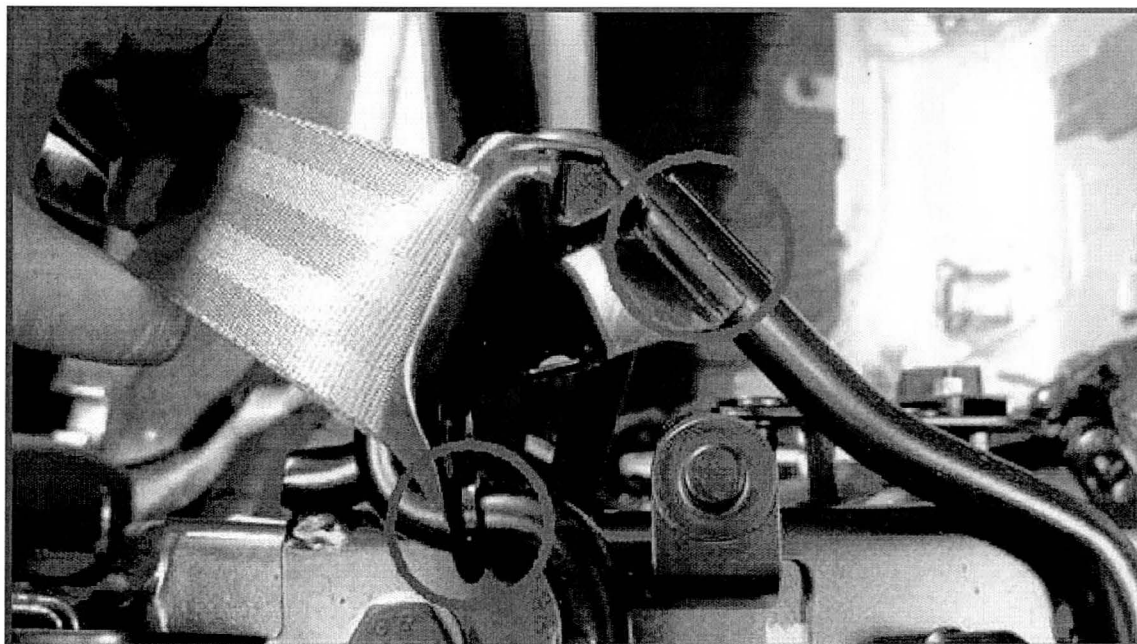

Figure 6
5. Refit the modified left hand seat belt guide (Figure 6) ensure the two location points are securely clipped home onto the 'D' loop